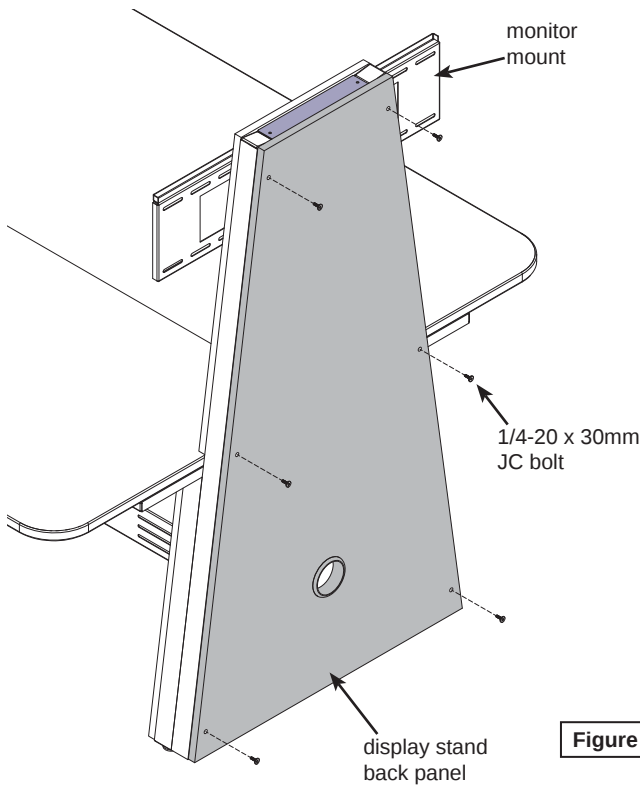

Figure 6
- B. Remove the display stand back panel by removing the (6) 1/4-20 x 30mm JC bolts (retain these bolts) and set aside. **Figure 6.**